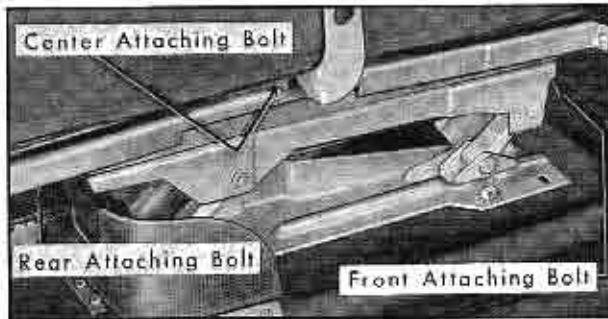

Fig. 3-59 Detaching Seat Assembly from Adjusters (Sedans)
3. On sedan models, remove center and rear attaching bolts, Fig. 3-59, from both adjusters. On coupe styles remove screws "A" and "B", Fig. 3-60.
6. On sedan models, remove front attaching bolt and washer indicated in Fig. 3-59.